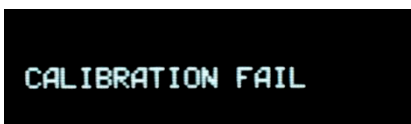

Figure 2-10: Calibration Failed
6. If the result is out of range, a fail message will be on the display as Figure 2-10 shows. Then the meter will automatically return to the measurement screen. If necessary, please start the self-calibration process again from the beginning.